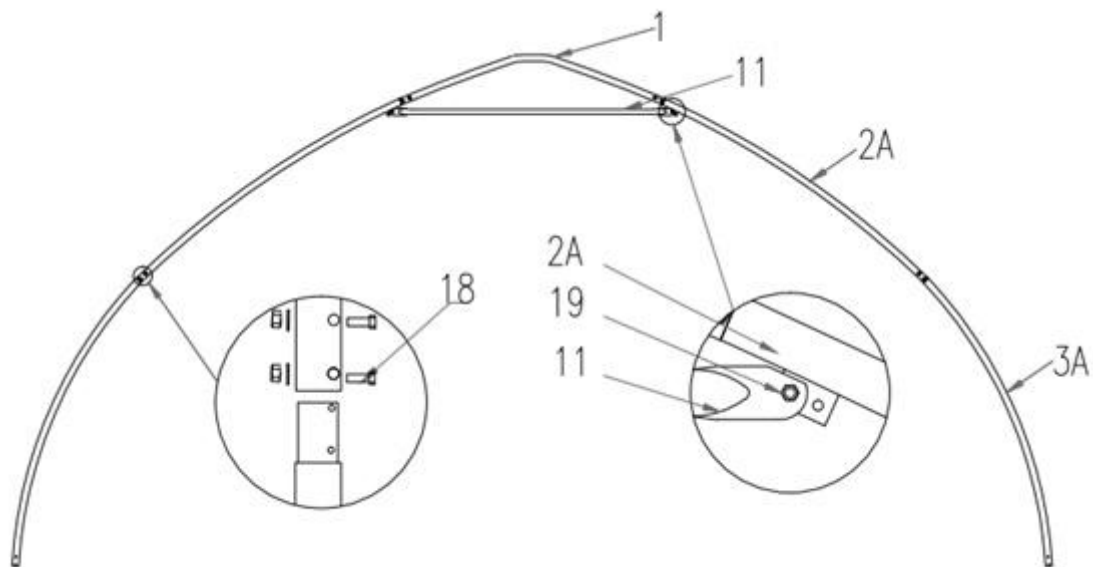

Figure 2
- The building includes 9 trusses : (1) Front truss (1st truss), (1) rear truss (9th truss), and (7) middle trusses. The front and rear trusses are installed with the fabric panel (#23).
- Both front and rear truss include the following parts. Connect all tubes with bolt (#18) (refer to figure 2).